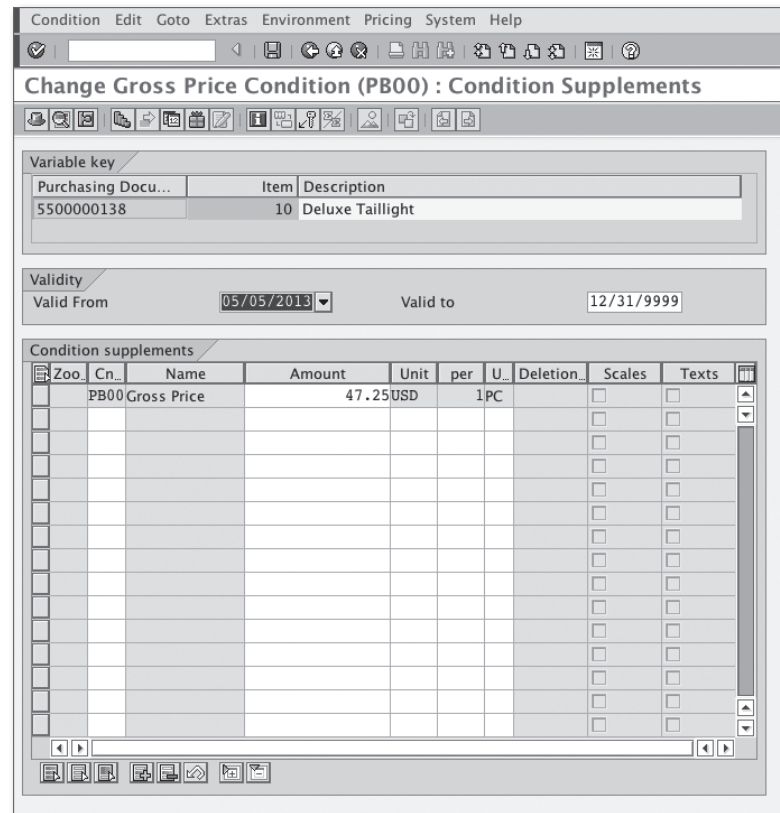

Figure 4.21 Entering Discounts and Surcharges in the Conditions Screen
1. By selecting the menu entry ITEM • CONDITIONS, you can enter all of the conditions you've negotiated with the vendor, including all of the discounts and surcharges (see Figure 4.21).